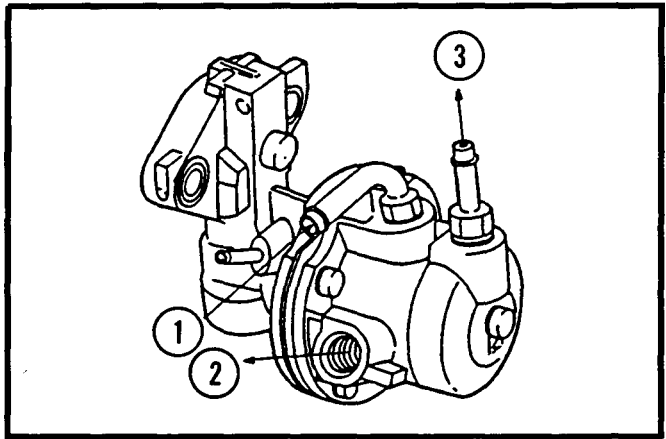

Figure 7.
Apply pressure (2 psi) to the inlet while plugging the outlet. There should be no air flow from the mounting area or where the pump halves are bolted together. See Figure 7.
2. Apply pressure (2 psi) to the outlet. There should be no air flow from the inlet, mounting area or where the pump halves are bolted together. If there are leaks replace the fuel pump. See Figure 7.